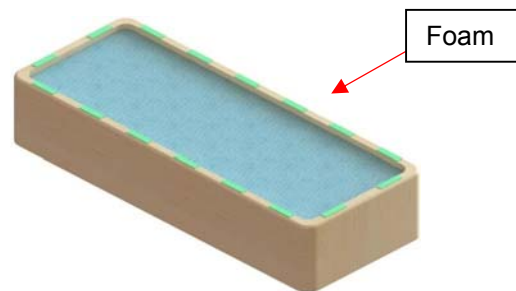

Figure 1
- 1) Attach the foam spacers to the top of the swim spa near each corner using the masking tape provided in the seal bag. There must be at least four foam spacers on each long side. Do not stack two pieces of foam high (Figure 1).